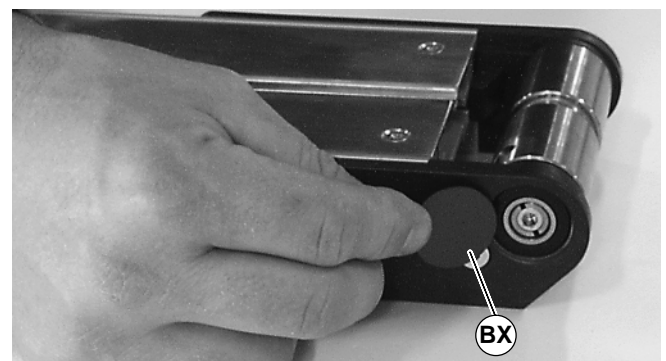

Figure 56
4. Install bearing covers (BX of Figure 56).